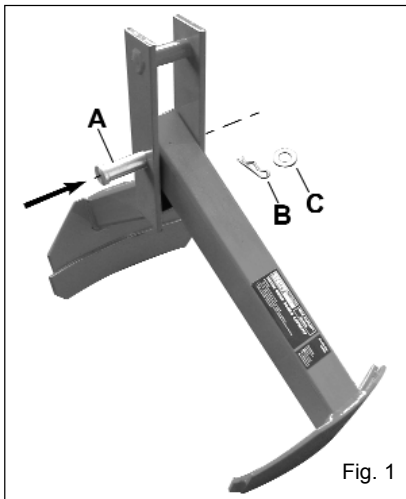

Fig. 1
- 3.1 Place the two halves of the grab together as shown in fig.1 so that the pivot holes are aligned and slide the pivot pin 'A' through both halves of the grab.